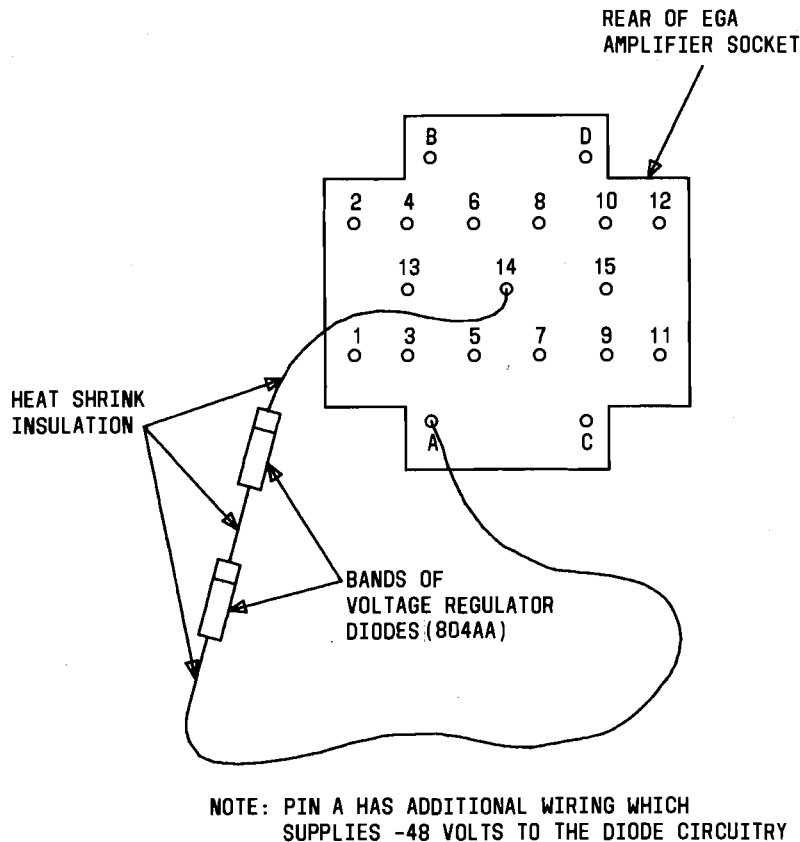

Fig. 3—Regular Diodes as Seen From Rear of -48 Volt Shelf
shown in Fig. 3. The necessary detailed information is presented in Section 302-104-504.
4.01 The input voltage required to power the EGA is 20 to 30 volts dc. The EGA may be powered from the 48-volt office battery as described in paragraph 2.04 but a pair of voltage regulator diodes (804AA) connected in series with the banded end connected to pin 14, must be used to replace each 1400 ohm resistor that is mounted behind the shelf (Fig. 3).